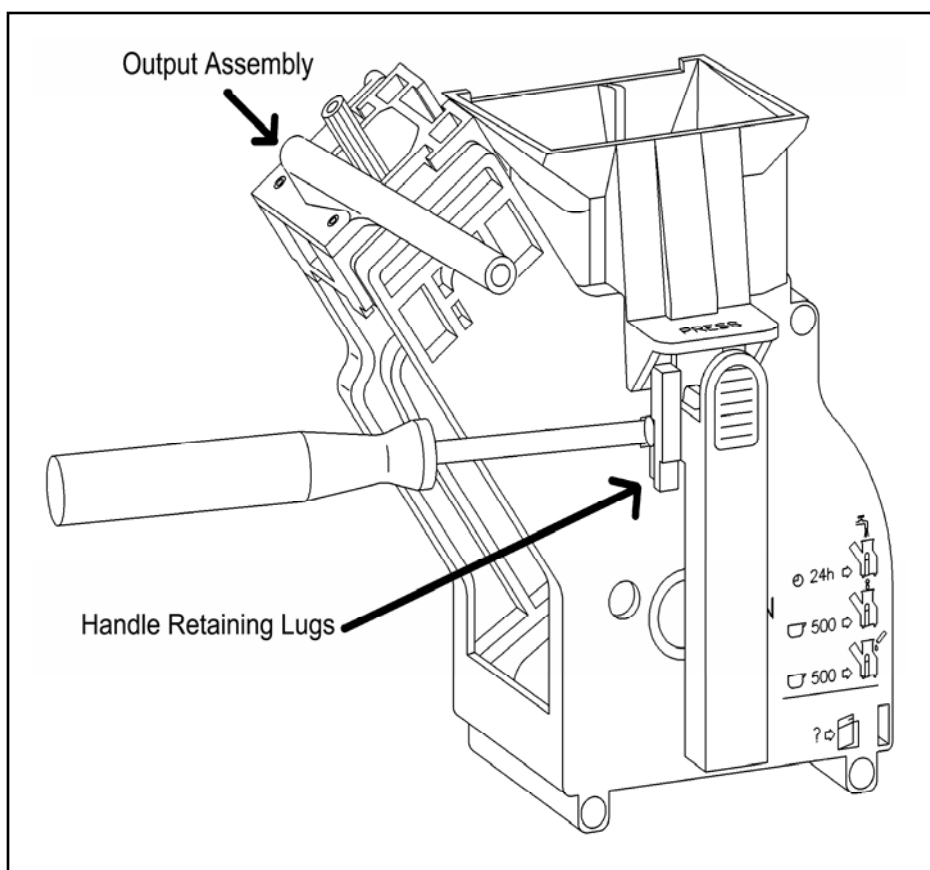

Figure 5-26: Brew Unit – Highlighting the Output Assembly (Covering the Cream Valve) and Retaining Lugs for Securing the Handle to the Brew Unit Body
2. Press the handle retaining lugs inwards (Figure 5-26).